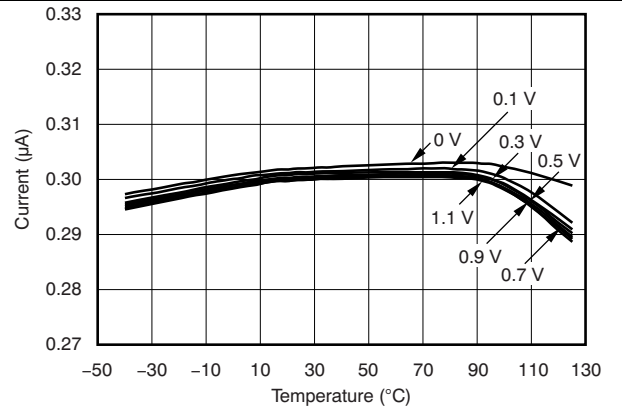

Figure 26. TPS386000-Q1 CT1 to CT4 Pin Charging Current vs Temperature Over CT Pin Voltage
- (1) Toggling WDI for a period less than t_{WDT} negatively affects I_{DD}.
(2) These specifications are beyond the recommended V_{DD} range, and only define $\overline{\text{RESETn}}$ or RESETn output performance during V_{DD} ramp up.
(3) The lowest supply voltage (V_{DD}) at which $\overline{\text{RESETn}}$ or RESETn becomes active; t_{RISE}(V_{DD}) ≥ 15 μs/V.
(4) CTn (where n = 1, 2, 3, or 4) are constant current charging sources working from a range of 0 V to V_{TH(CTn)}, and the device is tested at V_{CTn} = 0.5 V. For I_{CT} performance between 0V and V_{TH(CTn)}, see Figure 26.